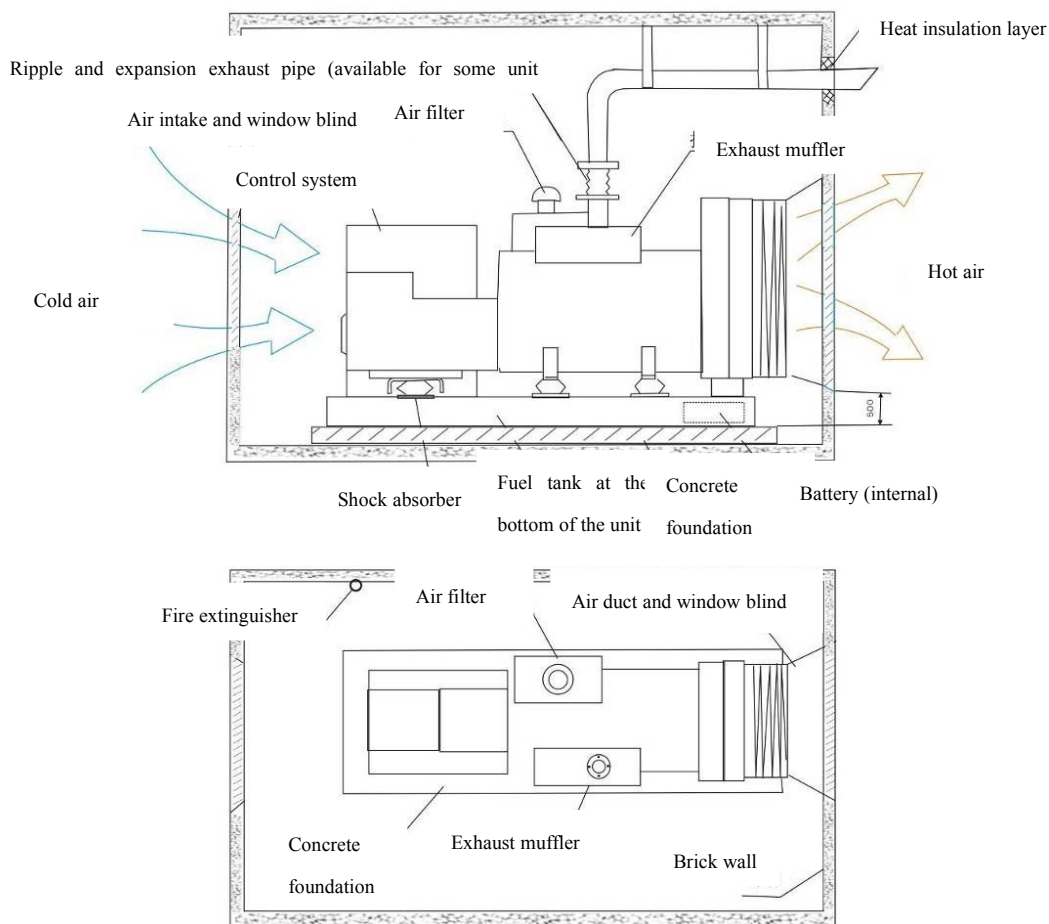

Fig.2-1
- For the layout of the unit, refer to Fig.2-1.